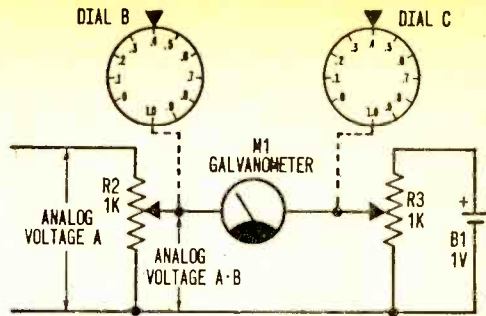

Fig. 3. Adding pot R3 and moving battery B1 reduce loading error inherent in circuit of Fig. 2.
**Null Readout.** In Fig. 2 the voltmeter presents a load across the resistive network—this introduces errors. One way to eliminate this loading effect is to replace the voltmeter with a null indicator. It's nothing more than inexpensive center-reading ammeter hooked up as shown in Fig. 3 (more properly called a galvanometer). When the voltage on the wiper of R3 is equal to the voltage on wiper R2, no current will flow through the galvanometer. So, a calibrated dial is added to the shaft of R3 which is read when the galvanometer is zeroed. Now all it takes to get an answer for any multiplication problem is to rotate the dial on R3 until the galvanometer is zero and the dial is read.